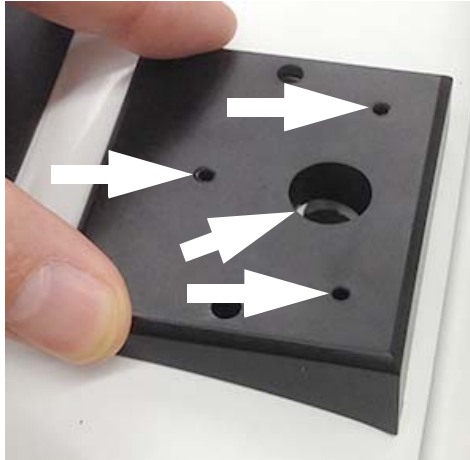

Figure 2-11 Mark holes
10. While holding the Receiver Mount securely in position, mark the locations for the 3 mounting holes and the cable access hole. See Figure 2-11.